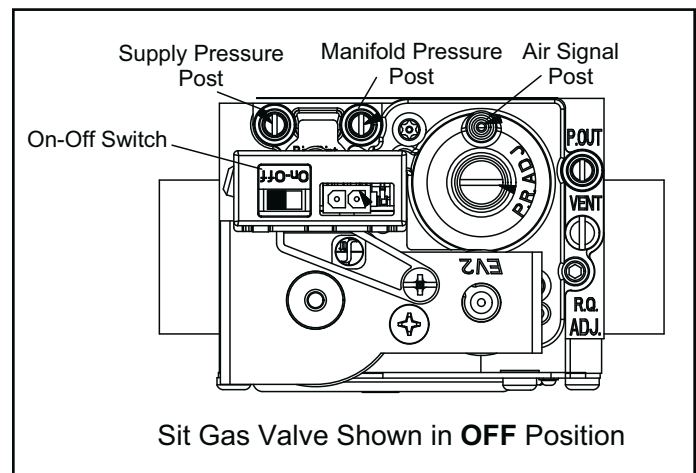

Figure 29. Sit Valve
See Figure 29
6. Move gas valve switch to OFF position. Do not force. See Figure 29.
7. Wait five (5) minutes to clear out any gas. If you then smell gas, **STOP!** Immediately call your gas supplier from a neighbor's phone. Follow the gas supplier's instructions. If you do not smell gas go to next step.
8. Move gas valve switch to ON position. Do not force. See Figure 29.